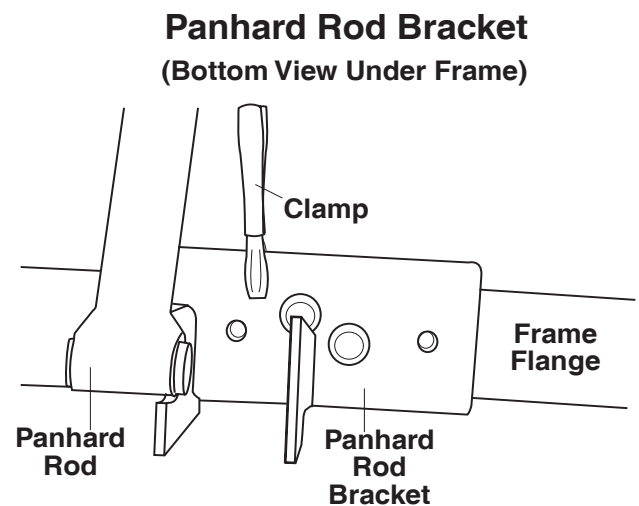

Figure 10a
4. Attach the bracket to the frame using the supplied 1/2" bolts, washers, and nyloc nuts (Figure 10a). Tighten securely at this time.